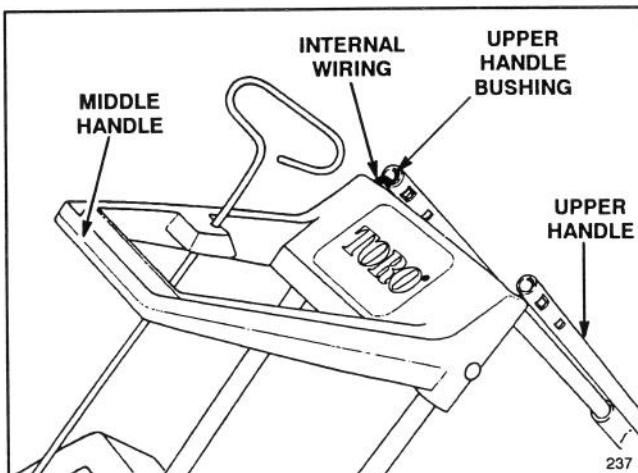

Figure 1
- Thoroughly inspect the open internal wiring (Fig. 1) before assembling snowblower. If wiring is damaged, do not assemble or plug in snowblower. Contact your TORO Service Dealer or TORO Service Center.
1. Stand snowblower upright and position upper handle in inverted position to prepare for handle assembly (Fig. 1). Inspect the open internal wiring for damage.
**Note:** Do not remove bushing from upper handle tube (Fig. 1).